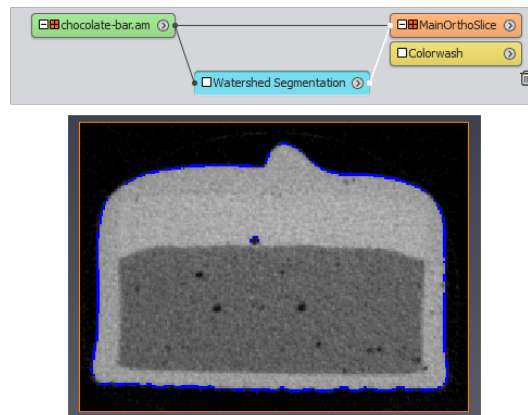

Figure 6.75: The *Watershed Segmentation* wizard at step 3.
- Then select again the *Watershed Segmentation* module (see Figure 6.75).